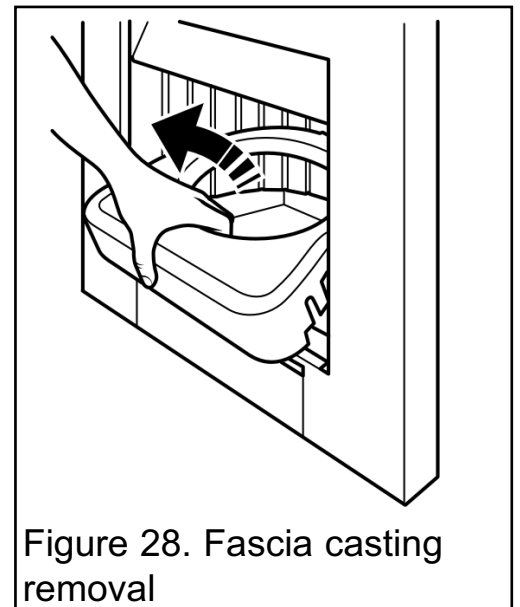

Figure 28. Fascia casting removal
2. Carefully lift the fascia casting and pull forward to remove (See figure 28).